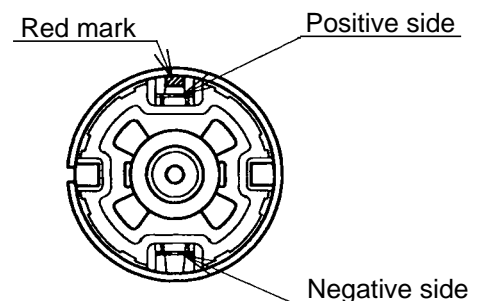
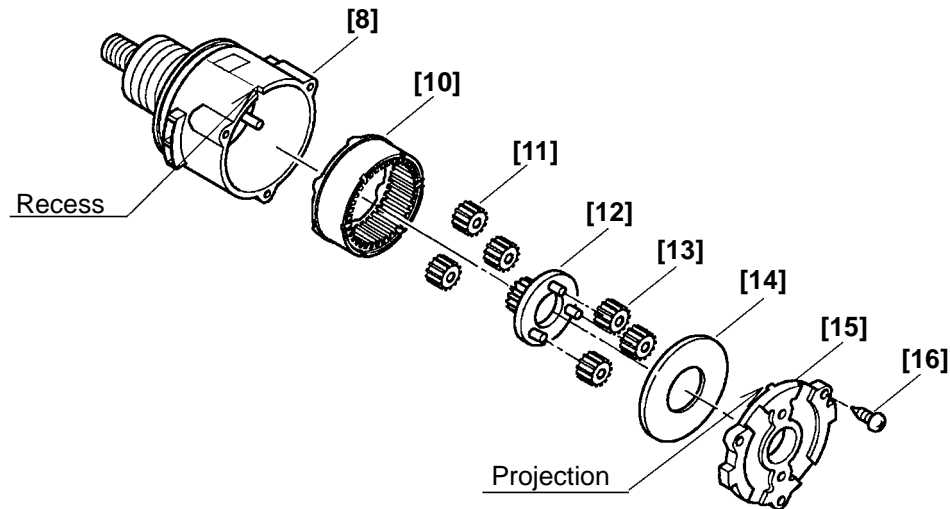

Fig. 5
Fig. 6
- (b) Pay attention to the polarity of the Motor **[18]** when soldering Internal Wires (B) **[22]** and **[23]** to the Motor **[18]**. The red-marked side of the Motor **[18]** is positive. (See Fig. 5.)
(2) Reassembly of the gear unit
- (b) Install the parts series from Ring Gear **[10]** to Screw Set D3 x 12 **[16]** into the Gear Case **[8]**. (See Fig. 6.)
- (i) Note the direction of each parts when installing the Ring Gear **[10]**, Pinion (B) **[12]** as illustrated in Fig. 6.